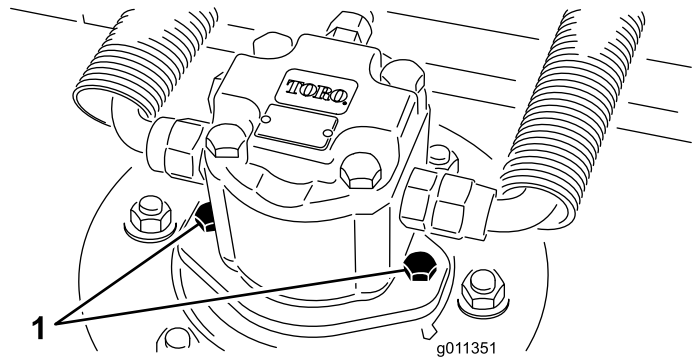

Figure 63
2. Disconnect and remove the hydraulic motor from the deck (Figure 63). Cover the top of the spindle to prevent contamination.
- Install the hydraulic motor to the deck (Figure 63). Make sure that the O-ring is in position and not damaged.